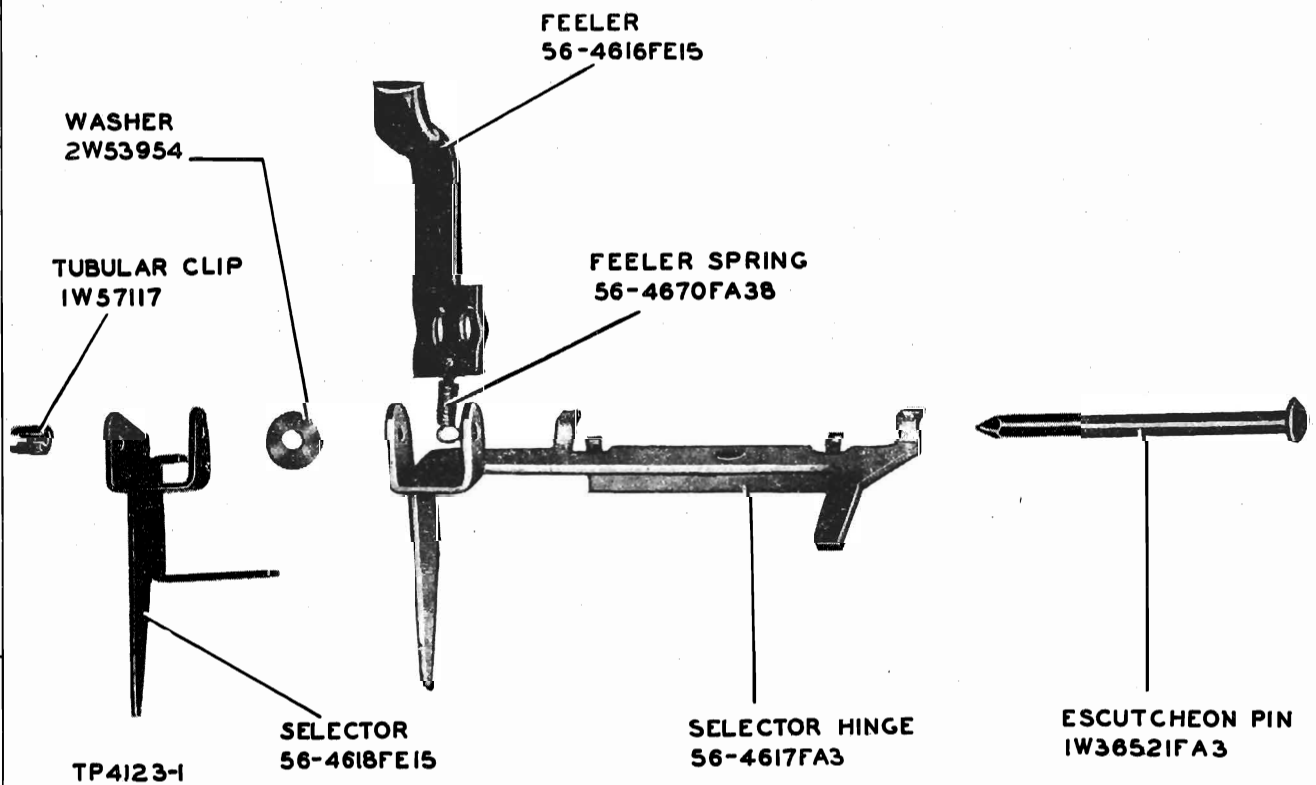

FIGURE 29 SELECTOR ASSEMBLY
- Tilt selector assembly and remove it from changer base plate. Figure 29 shows the assembly.